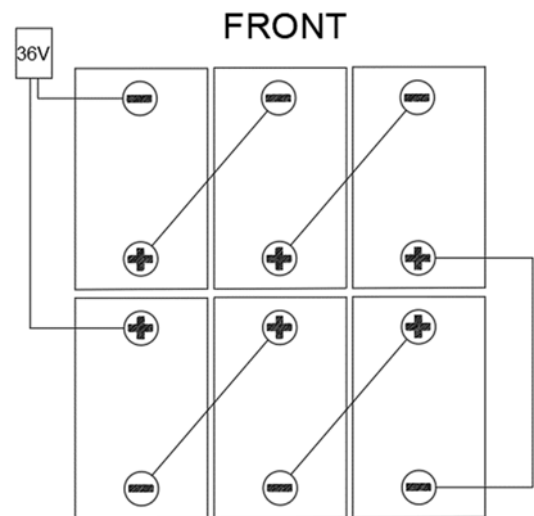

Figure 5
The machine requires six 6V batteries, connected and installed in the positions shown in Figure 5.
The machine is supplied with cables suitable to install six 6V batteries. Carefully put the batteries into the compartment, then install them correctly as shown in Figure 5. Put the battery fixed plate correctly.
8. Route and install the battery cable as shown in Figure 5, then carefully tighten the nut on each battery terminal.